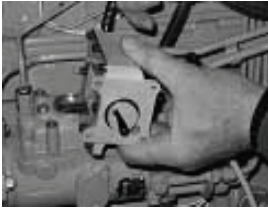
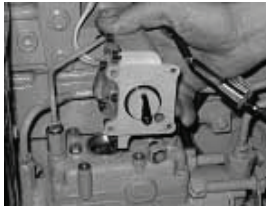

Figure 2
Figure 3
2. Liberally apply clean diesel fuel to the O-Ring on the actuator. This will allow the actuator to slide easily into position on the pump. It will also protect the O-ring. Temporarily connect the actuator's leads to the Battery terminals on the speed control unit. This will energize the actuator and place the actuator's lever at the full-fuel position. This is done so that the lever on the actuator will properly engage the pump's fuel-metering valve linkage. See Figure 2 (before energizing actuator) and Figure 3 (actuator is energized) and notice the positional difference of the lever located on the bottom of the actuator. Battery polarity does not have to be observed with respect to the actuator coil.